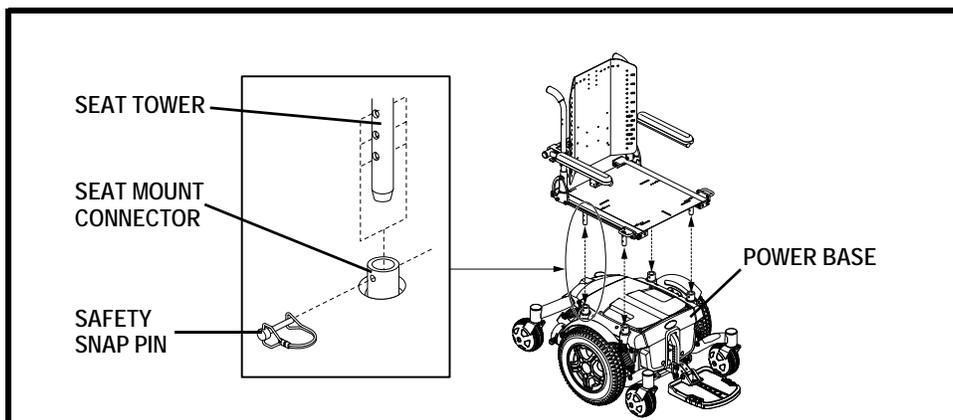

Figure 3. Seat Installation/Removal
1. Remove the safety snap pins from all of the seat mount connectors. See **figure 3**.
2. Lower the seat so that the four seat towers are inserted into the four seat mount connectors. See **figure 3**.